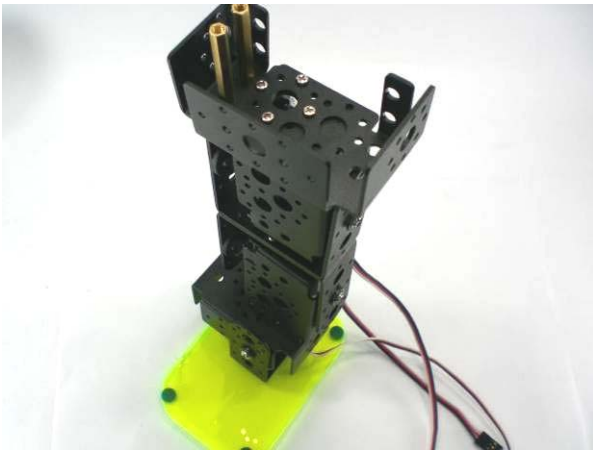

Figure 77
24. Mate the leg and servo bracket with A set screw as shown in figure 77 until 80.